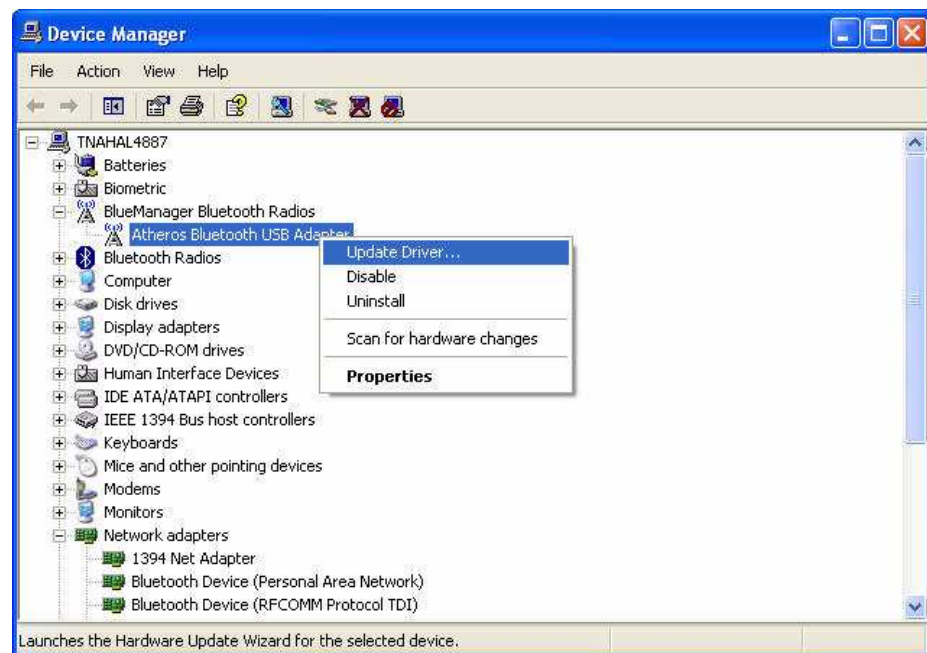

Figure 1-11. Updating the Atheros BtUSB Driver
NOTE: If you are using the BtUSB tool and you also have some other Bluetooth application installed on your system such as Blue Manager Suite, you will see Atheros Bluetooth USB driver, you need to go to the Device Manager, click on the Atheros Bluetooth USB driver and choose Update as shown in Figure 1-11. If you do not have any other Bluetooth application installed on your system such as Blue Manager Suite, ignore the next four steps.
2. Right click on the **Atheros Bluetooth USB Adapter** and choose **Update Driver**. See Figure 1-11.